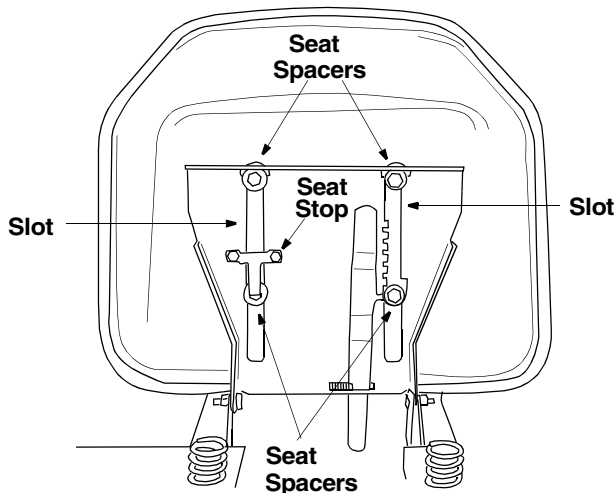

Figure 5
- Turn the seat around and line up plastic seat spacers with the slots in seat pivot bracket. See Figure 5 .Slide seat in until front seat spacer engages the seat stop. To adjust the seat, refer to the adjustment section on page 14.